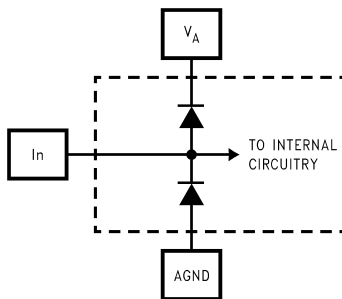

Figure 2.
(1) The inputs are protected as shown below. Input voltage magnitude up to 300 mV beyond the supply rails will not damage this device. However, errors in the A/D conversion can occur if the input goes beyond the limits given in these tables. See Figure 2
(2) Typical figures are at $T_J = 25^\circ C$, and represent most likely parametric norms.
(3) Test limits are specified to TI's AOQL (Average Outgoing Quality Level). Performance is ensured only at $V_{REF} = 1.0V$ and a clock duty cycle of 50%. The limits for V_{REF} and clock duty cycle specify the range over which reasonable performance is expected. Tests are performed and limits specified with clock low and high levels of 0.3V and $V_D - 0.3V$, respectively.
- (1) The inputs are protected as shown below. Input voltage magnitude up to 300 mV beyond the supply rails will not damage this device. However, errors in the A/D conversion can occur if the input goes beyond the limits given in these tables. See Figure 2
- (2) Typical figures are at $T_J = 25^\circ C$, and represent most likely parametric norms.
- (3) Test limits are specified to TI's AOQL (Average Outgoing Quality Level). Performance is ensured only at $V_{REF} = 1.0V$ and a clock duty cycle of 50%. The limits for V_{REF} and clock duty cycle specify the range over which reasonable performance is expected. Tests are performed and limits specified with clock low and high levels of 0.3V and $V_D - 0.3V$, respectively.